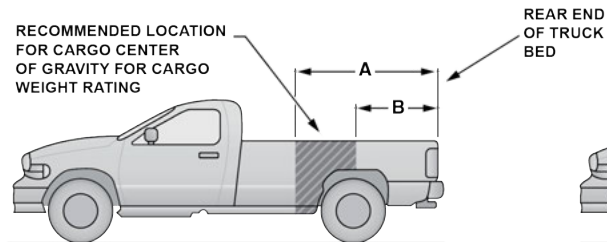

Figure 1
Figure 1 illustrates the dimensions describing the forward and rearward limits of the zone in which the Center of Gravity (CG) of a slide-in camper must be located, to provide satisfactory vehicle handling and to prevent overload of the front and rear axles.